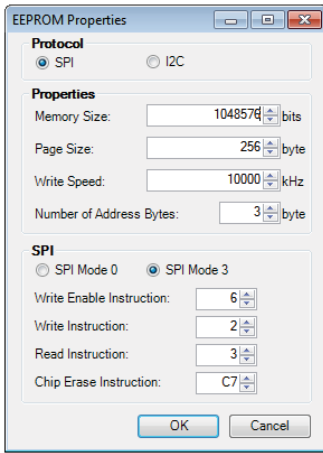

Figure 71. EEPROM Properties Window and Required Settings
8. An EEPROM Properties dialog box appears. Enter the values shown in Figure 71 to the text fields and then click OK.